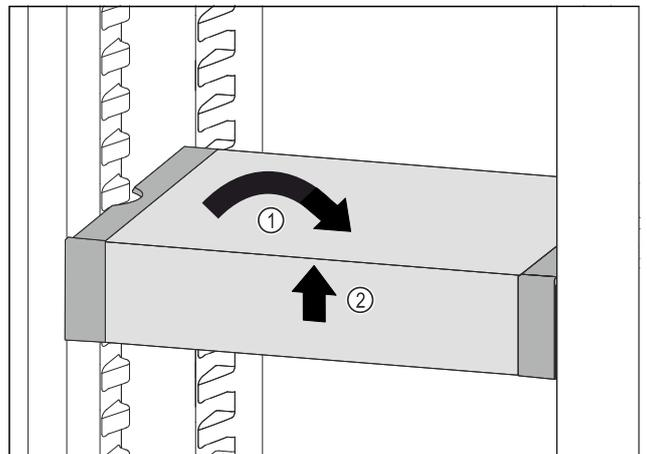

Fig. 76
- ▶ Set VarioSafe straight. Fig. 76 (1)
- ▶ Lift VarioSafe at the front. Fig. 76 (2)